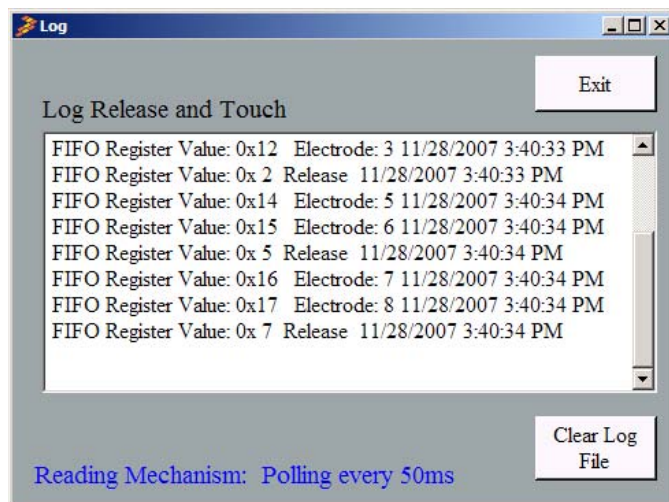

Figure 15. Log Rotary Window
- 3) FIFO Log Rotary – This allows the user to view the FIFO log in a floating window. If the device is running and as the user rotates their finger around the pad, the text box will log the user's touch and releases. The log file will contain the read value, position number, date and time (Figure 15).
- 2) Selecting the Rotary Release Buffer Enabled check box, enables the bit to determine whether not data is logged in the FIFO when the rotary transitions from a touched or untouched state. When the rotary release is enabled, the user can view the log file and view when the rotary has transitioned from a touched to untouched state by going to the menu strip at the top of the window and selecting “Rotary” and then selecting “FIFO Log of Rotary” (Figure 15). If the rotary release is disabled, the log file will not log rotary releases.
- 3) Selecting the Rotary Touch Buffer Enabled check box, enables the bit to determine whether or not data is logged in the FIFO anytime an electrode is pressed. When the rotary touch is enabled the user can view the log file and view when the rotary presses by going to the menu strip at the top of the window and selecting “Rotary” and then selecting “FIFO Log of Rotary” (Figure 15). If the rotary release is disabled, the log file will not log rotary releases.